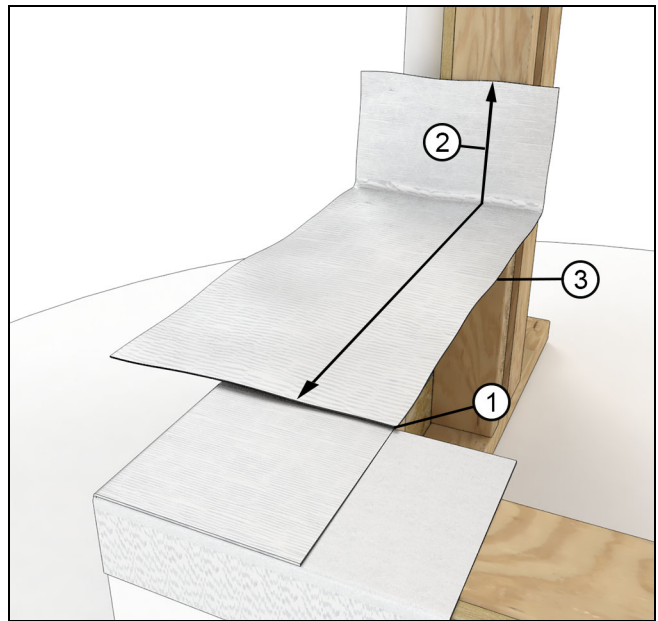

Figure 23
7. Apply the flexible flashing to the sill leg starting about 6" (152) from the corner. Lap the flashing up the side jamb. Repeat on the opposite side. See Figure 23.